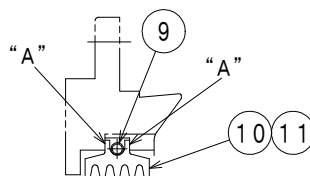

Fig. 7
6.2.5 Disassembly of floating seal (see Fig. 7)
- (1) Apply un-hardening compound or grease thinly on the peripheral side faces ("A" in Fig. 7) of the floating seal, and apply lubrication oil thinly on the bore of the floating seal.
- (2) Insert the floating seal lower half (with a oil drain hole) into the seal carrier and lower half by turning it. Make sure that the drain hole is facing inside the oil sump.
- (3) Install the floating seal upper half. Wound the garter spring around the floating seal, and lock it. Carefully align the upper and the lower halves of the floating seal to make their surfaces flush. After assembling, make sure it is free from jamming to be caused from deformation by turning it.
- (4) During reassembling the seal carrier upper half, confirm that the anti-rotation pin of the seal is properly secured in its groove.